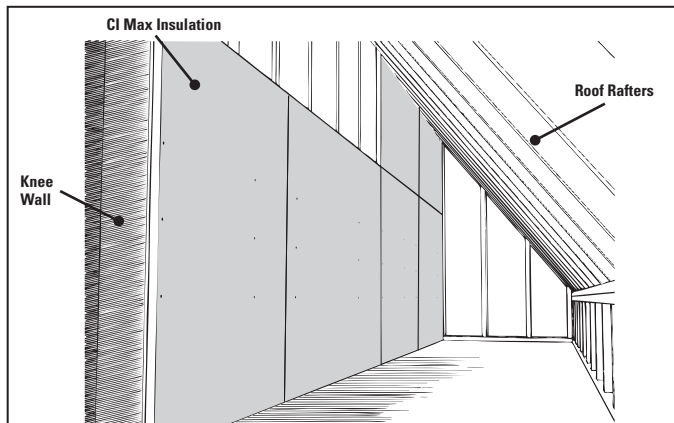

Figure 2. Knee wall installation of CI Max boards
3. Use maximum board lengths to minimize number of joints. Locate joints square to framing and center end joints over framing (as shown in Figure 2). Provide additional framing as necessary. It is not necessary to stagger board joints.